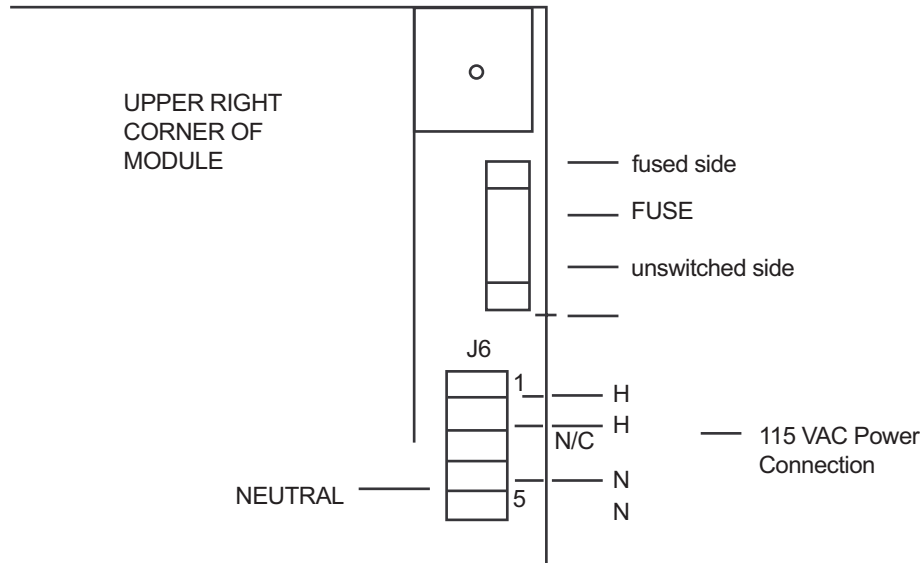

Figure 7 AC Power Connection To Modules
All of the modules are powered from 115 VAC 50/60hz Control Power except the CLD and the IPCB, which are powered by 24 VAC. This power is provided by either a control power transformer or is customer supplied. With the exception of the CLD, LCI-C and the IPCB modules, the other modules have incoming power connected to the upper-most terminal on the right hand side of the module, just below the fuse. The terminal is arranged with two hot pins (1 and 2), a keying pin (3), and two neutral pins (4 and 5), for ease of "daisy chaining" power from one module to another. Incoming power can be verified by measuring the voltage between the fuse bottom (hot side) and the connector's neutral (pins 4 or 5). The voltage should read between 97.8 to 132.2 volts AC rms. Refer to Figure 7. (The $\pm 15\%$ voltage criteria is most important for the EXV module's operation, as the Electronic Expansion Valve's available torque is directly related to this value).